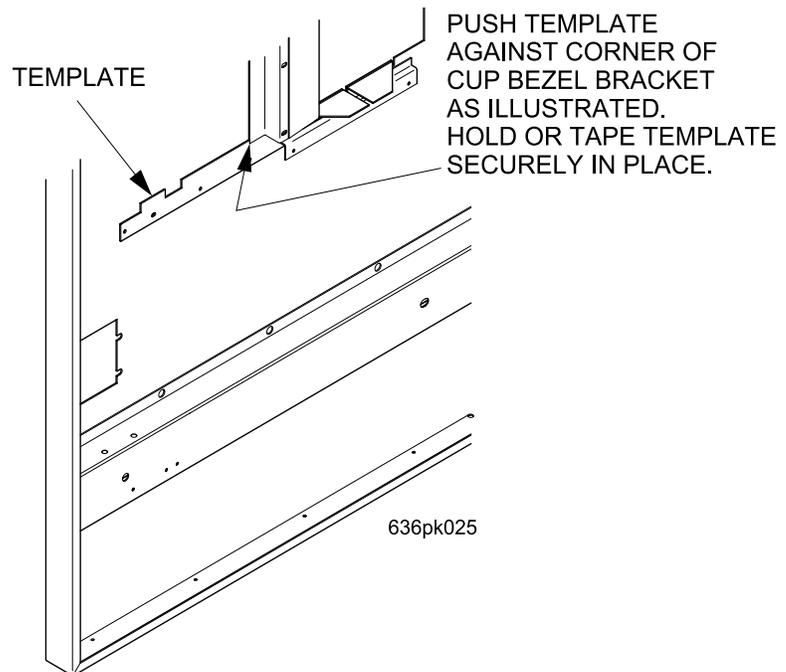

Figure 1
4. Locate template as shown (horizontal) align 3 edges on door tape or hold in place. (See Figure 1)